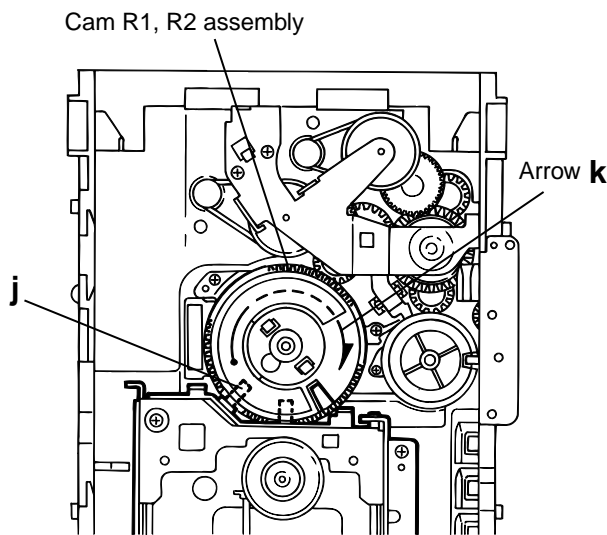

Fig.11
**■ Removing the CD traverse mechanism (See Fig.11 and 12 )**
1. For dismantling only the CD traverse mechanism without removing the CD loading mechanism assembly, align the shaft "j" of the CD loading mechanism assembly to the position shown Fig.11 while turning the cam R1 and R2 assembly in the arrow direction "k" .